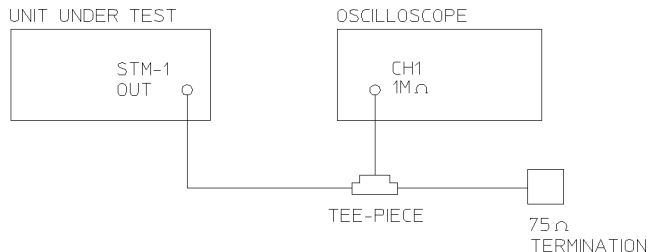

Figure 3-34
1. Connect up the equipment as shown in Figure 3-34 and recall HP 37717C DEFAULT SETTINGS as shown on 3-2.